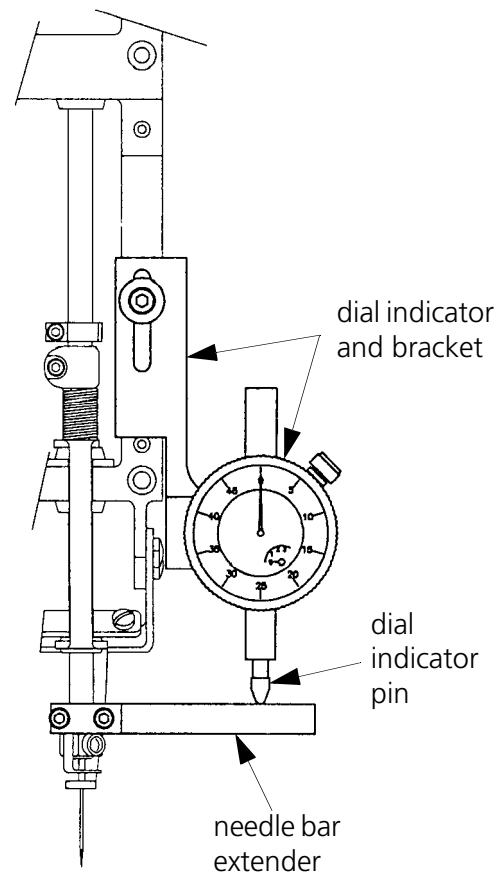

Figure 5-3
7. Refer to Figure 5-3 and install the Gear Mesh and Encoder Setting Fixture (part number 995567-01) as follows:
- b) Loosely attach the dial indicator and bracket to the right front of the needle case as shown in Figure 5-3. Use an M4 x 16mm socket head cap screw and M4 flat washer into the screw hole used to secure the lower needle case cover (removed earlier).